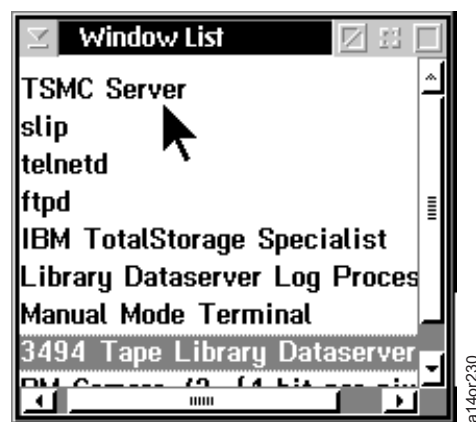

Figure 2-40. Command Process Window List – Example. The text on your screen may differ with various levels of code or with different machine model numbers.
2. Ensure that the TSSC Server is listed in the command process window. Use **Ctrl + Esc** to view the window list. See Figure 2-40.
- If the TSSC Server is not included in the list depicted in Figure 2-40, you can start the TSSC Server by typing **tsmcstrt** from a command line.
- You can stop the TSSC Server. Right click **TSMC Server** from the Figure 2-40, then click on the **Close** button in the dialog box.